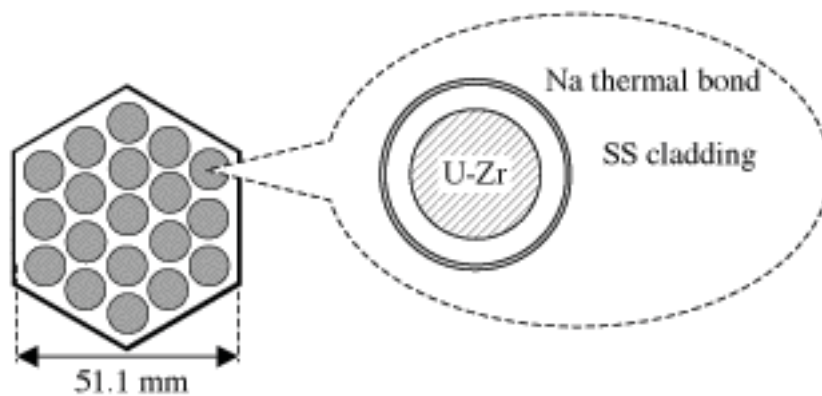

Figure 1. Cross Sectional View of the Fuel Assembly. □
An innovative fast reactor concept uses molten lead as the coolant with the small hexagonal fuel-assembly design shown in Figure 1. The geometry and operating conditions of the fuel assembly are described in Table 1. Each fuel pin consists of a cylindrical slug made of U-Zr with a stainless steel cladding. Since U-Zr swells significantly under irradiation, a relatively large gap must be provided for between the fuel slug and the cladding (Figure 1). The gap is filled with a “thermal bond” to prevent excessive temperatures in the fuel, when the reactor is at power. The thermal bond material is molten sodium. Useful properties for all materials in the fuel assembly are reported in Table 2 at the end of the problem statement.
Fuel assembly inner width	51.1 (see Figure 1)
- (10%) Wire wrapping is often used for fuel pin spacing in liquid-metal-cooled fast reactors. If this approach were used for the fuel assembly in Figure 1, would the coolant velocity, bulk temperature, heat transfer coefficient and pressure drop increase, decrease or remain the same? Why? (Assume that power, mass flow rate, inlet temperature and fuel pin geometry remain the same)